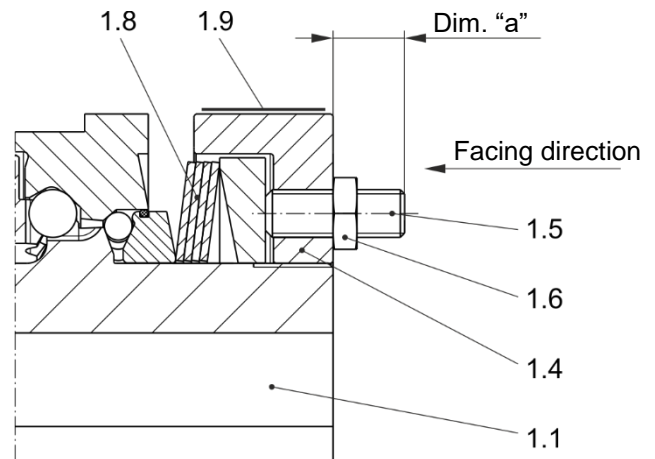

Fig. 5
Adjustment is carried out via dimension "a" by turning the set screws (Item 1.5, Fig. 2 and Fig. 5).
You should be facing the adjusting nut (1.4) as shown in Fig. 5.
- For dimension "a", see the adjustment table (Item 1.9, Fig. 7) (The adjustment table (1.9) is glued onto the outer diameter of the adjusting nut (1.4), see Fig. 5).